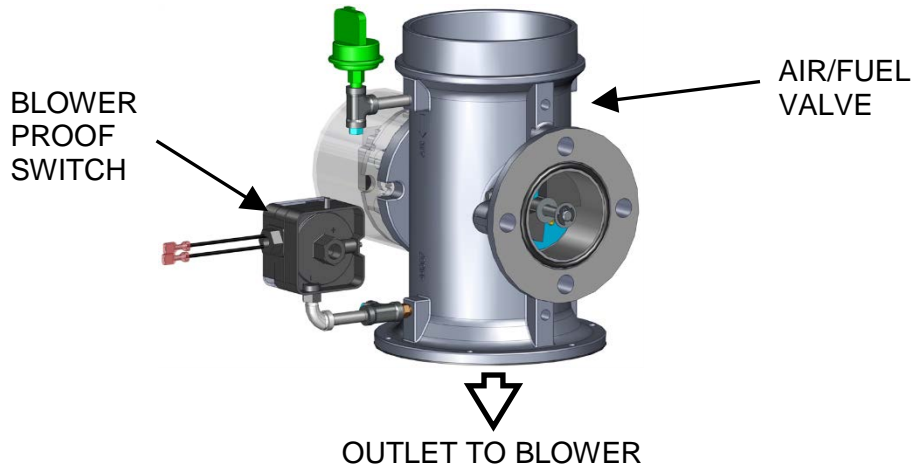

Figure 3-5. Blower Proof Switch
4. Next, the blower proof switch on the Air/Fuel Valve (Figure 3-5) closes. The display will show *Purging* and indicate the elapsed time of the purge cycle in seconds.